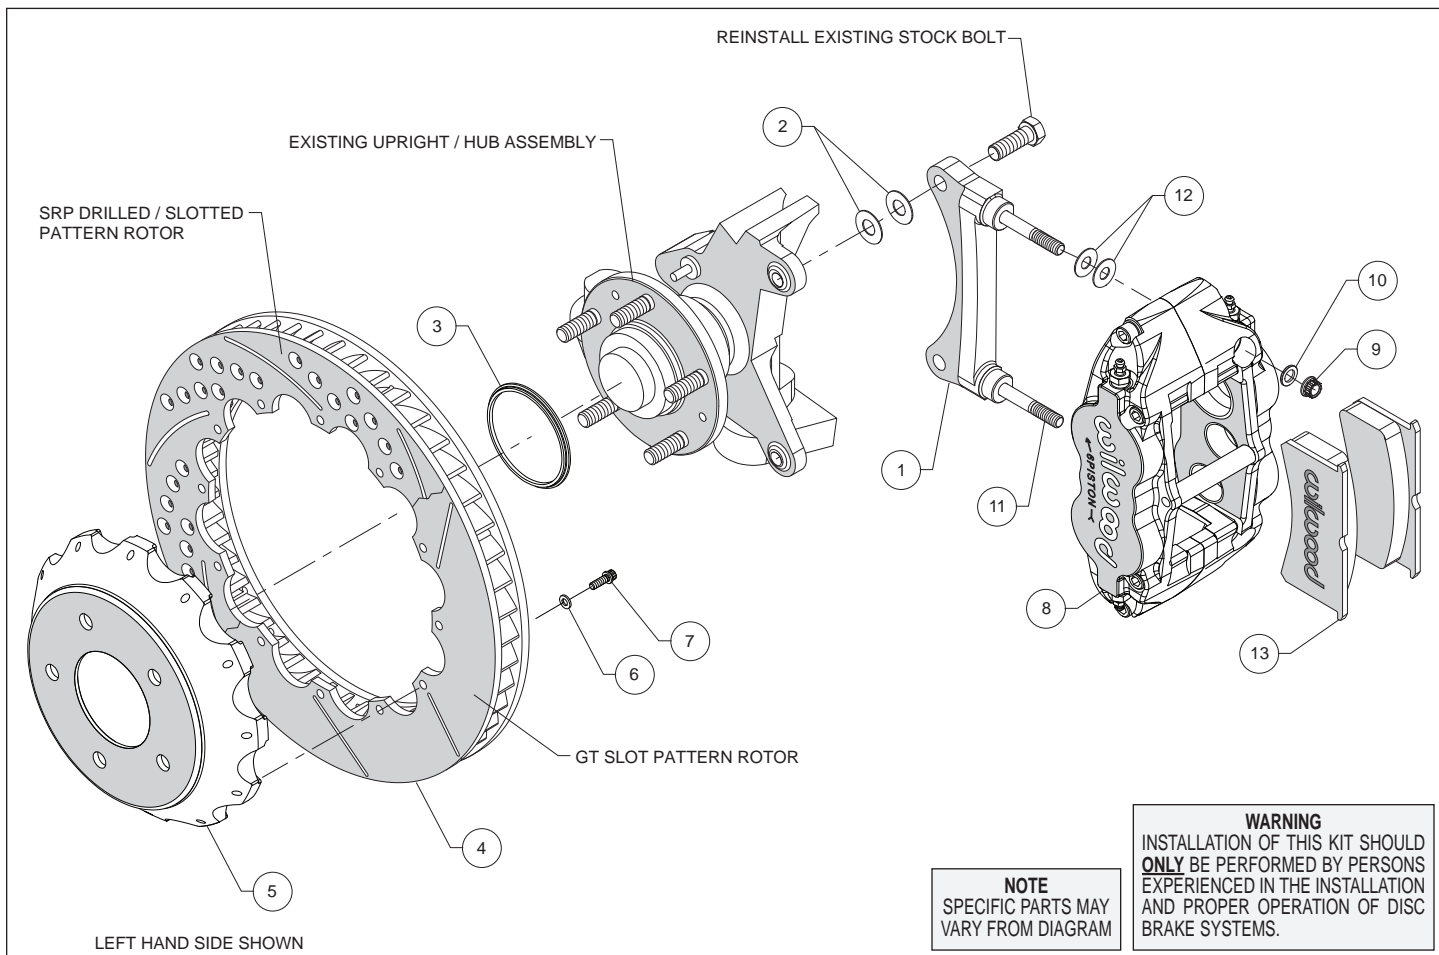
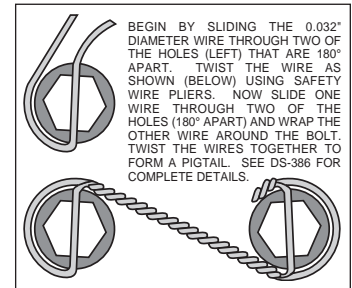

Figure 1. Typical Installation Configuration
Figure 3. Safety Wire Diagram
Assembly Instructions (numbers in parenthesis refer to the parts list and Figure 1 on the preceding pages):
- The caliper mount bracket (1) should initially be installed with clean, dry threads on the mounting bolts. Orient the bracket as shown in Figure 1, and install using saved Original Equipment Manufacturers (OEM) mounting bolts and shim washers (2). Initially place two shims (2) on each bolt between the bracket and upright, Figure 1. Temporarily tighten the mounting bolts. **NOTE:** The bracket must fit squarely against the mount bosses on the upright. Inspect for interference from casting irregularities, machining ridges, burrs, etc. Later, after the caliper alignment has been checked, the mount bolts will be secured using red *Loctite*® 271.
- Orient the rotor (4) and the hat (5) as shown in Figure 1 and Photo 1. Attach rotor to hat using bolts (7) and washers (6). Using an alternating sequence, apply red *Loctite*® 271 to the threads and torque bolts to 155 in-lb. For an added measure of security, the bolts may be safety wired using standard 0.032 inch diameter stainless steel safety wire as shown in Figure 3. Please refer to Wilwood's data sheet DS-386 (available at www.wilwood.com/Pdf/DataSheets/ds386.pdf) for complete safety wire installation instructions.
- Slide the rotor registration adapter (3) onto the axle register on the axle hub with the smaller O.D. facing outward, Photo 2. Slide the hat/rotor assembly onto the axle hub. **NOTE:** The hat must fit flush against the axle hub flange or excessive rotor run out may result. Install three lug nuts (finger tight) to keep the hat/rotor assembly in place while continuing with the installation.
- NOTE:** This kit contains distinct right and left hand calipers that must be mounted in a specific direction, as described below. Lubricate the caliper mounting studs (11) with lightweight oil. Initially place two .035" thick shims (12) on each stud as shown in Figure 1 and Photo 3. With the bleed screws pointing up, mount the caliper (8) onto the bracket (1) using lock nuts (9) and washers (10), Figure 1 and Photo 4. Ensure that the caliper is mounted so that the largest pistons are at the rotor exit end of the caliper, in relation to the direction of rotor rotation. Temporarily tighten the lock nuts and view the rotor through the top opening of the caliper. The rotor should be centered in the caliper, Photo 5. If not, adjust by adding or subtracting shims (2) between the bracket and the upright. Always use the same amount of shims on each of the two mounting bolts. Once the caliper alignment is correct, remove the bracket mounting bolts one at a time, apply red *Loctite*® 271 to the threads, and torque to manufacturer's specifications.